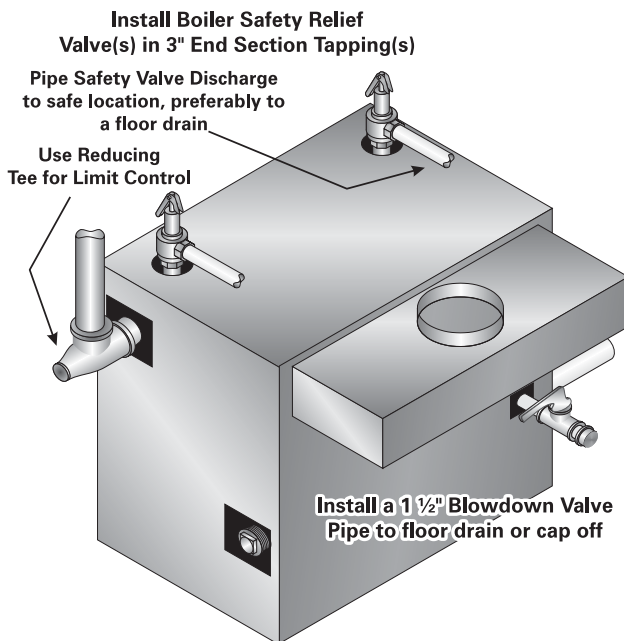

Figure 8.1: Safety Relief Valve Piping
1. Install a 1-1/2" full port ball valve in each of the tappings provided at the lower back of the end sections. See Figure 8.1.